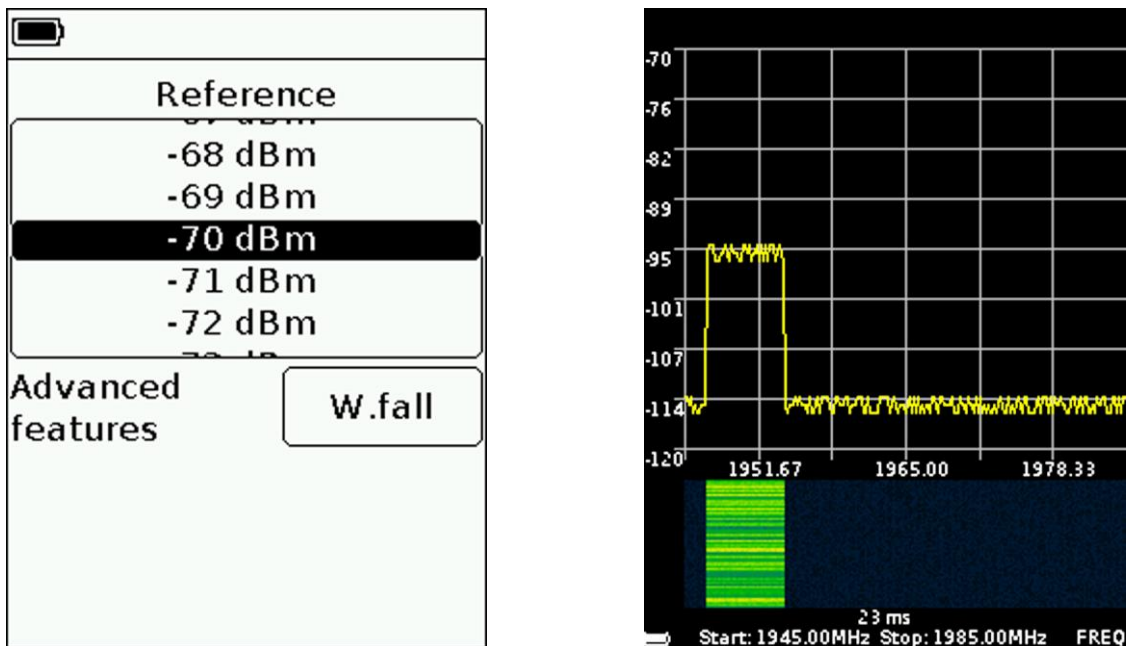

Figure 8.4.5 - Measurement in the «Waterfall» mode
8.4.3.2. In the additional mode «Waterfall», the spectrogram is displayed on the device screen under the spectrum graph (figure 8.4.5).